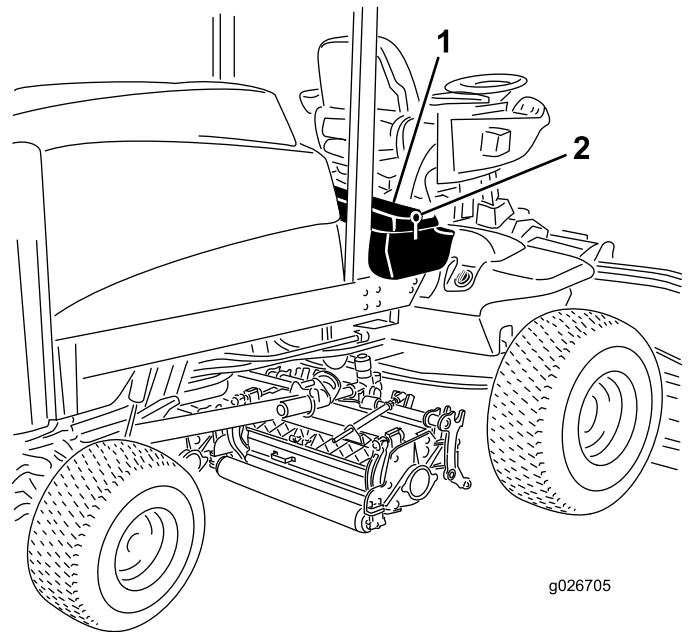

Figure 56
1. Unlatch and raise the operator's console panel (Figure 56).